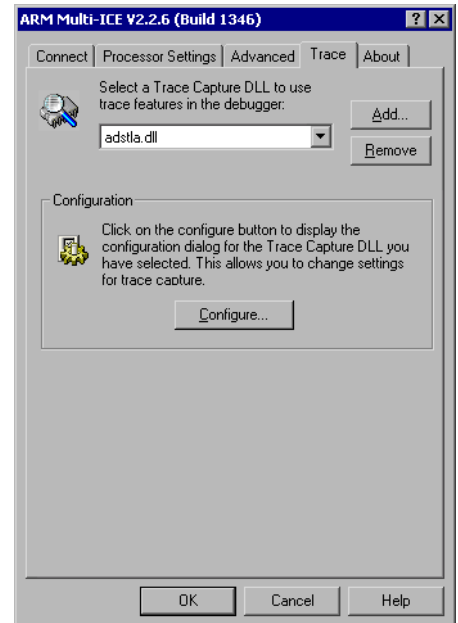

Figure B-21 Multi-ICE configuration dialog box showing the Trace tab
10. Click on the **Trace** tab to make it visible (Figure B-21).